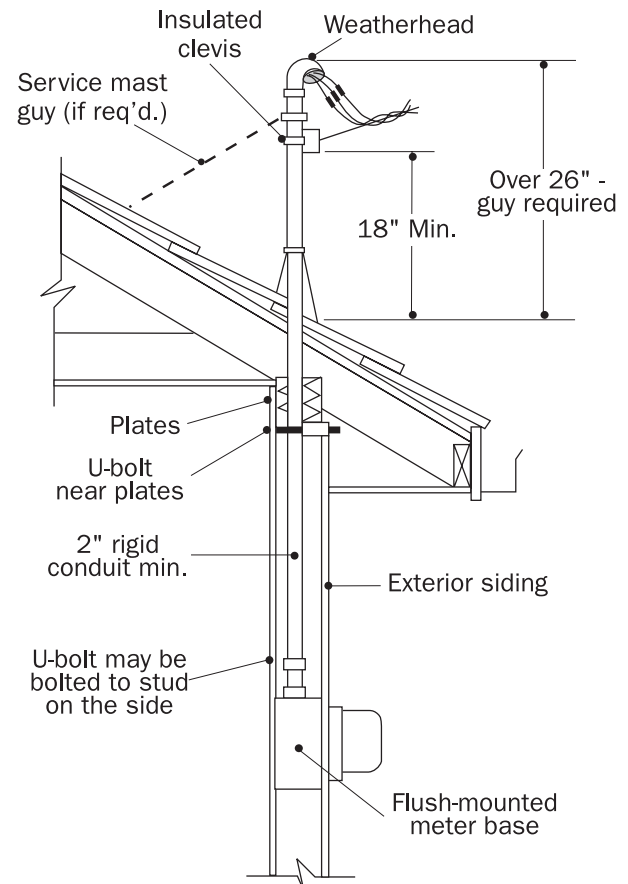

Figure E-6.
- Flush mounted (see Figure E-6)